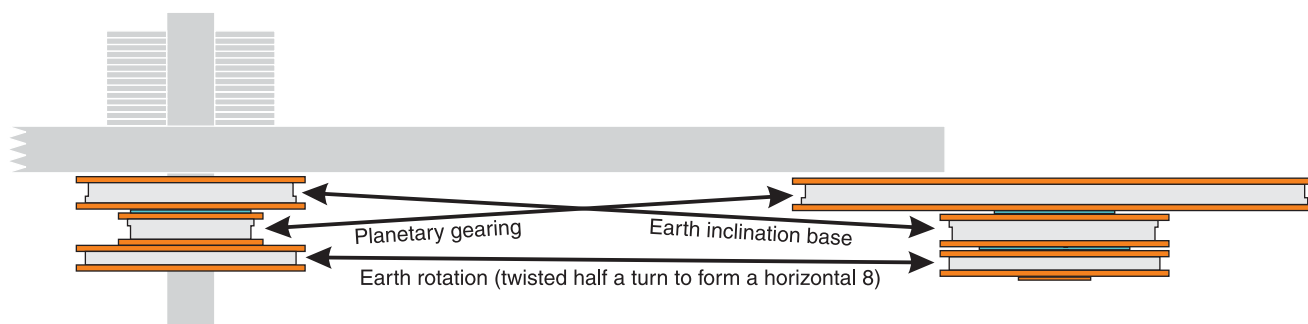

Figure 12: Drive belt installation below the ecliptic disc
Step 79: Install the planetary gearing on the ecliptic disc rim. Pull one of the two smaller, thin rings onto the earth inclination driving wheel, which is connected to the underside of the ecliptic disc. Then pull the belt onto the second runner from the bottom on the planetary gearing; this one is connected to the earth inclination base. Lay the other, smaller ring on the small groove wheel at the top of the central shaft and pull it onto the large planetary gearing runner. Be aware that these two belts change levels as they run from driving wheel to runner; they cross over when looked at from the side (see fig. 12).